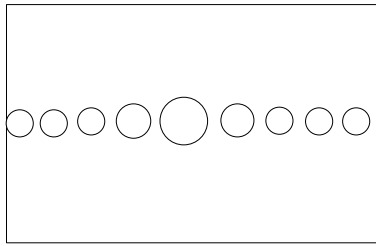

FIG. 1
- Horizontal curtain lens (Fig. 1)
To replace the lenses you must remove the funnel and remove the lens that is resting in the housing as shown in figure 1 and 2.
Screw for Anti-removal system - Fig.1
Once the cable and wall attachment holes have been made, take the measurement to attach an anchor (3 mm) to the anti-removal system. (see above fig.1 and fig.2)
You can use the hub included in the package for attaching it to the wall. The back of the cover is ready for attachment of the hub and for the passage of the cables inside it. You can see how it should be used in the figure. In case of use of the hub, for the closure of the anti-removal tamper mount the specific screw, in the seat shown in Fig. 1.